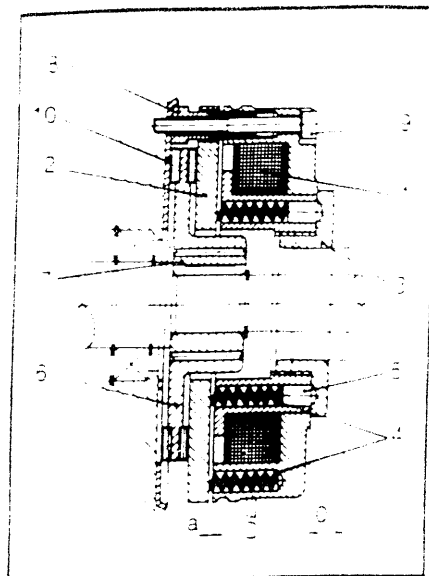

FIGURE 1
The Lenze Electromagnetic Release Spring Set Brake, Type 14.448, as shown in Figure 1, produces its stopping torque by the use of multiple springs (4) exerting pressure on the armature plate (2). The armature plate, in turn, is forced towards the friction plate (8) mounting flange (10) compressing the dual faced friction rotor (6) between the armature plate and the friction plate or mounting flange. Figure 1 illustrates the location of the armature plate, friction rotor and friction plate in the set position. The rotor is attached to the shaft (7) which is keyed to the shaft.
NOTE: Air gap dimension is illustrated in Figure 1, denoted by "A".
The brake is supplied from the factory with the nominal torque settings. This torque can be reduced by unscrewing the torque adjustment ring (3) with a spanner within the limit of the 10.7 dimension given in Table 1 and depicted in Figure 1. The torque adjustment ring has 29 different action with torque variation per step given in Table 1.
In most applications, the brake needs practically no maintenance. However, after a long period of operation, or if the brake has a high duty cycle, adjustment of the air gap (see Figure 1) may be necessary. When the 'maximum' value shown in Table 3 is exceeded, adjust the value back to 'normal' using the air gap adjustment instructions described in Section 2.1.1.9 of the assembly instructions.